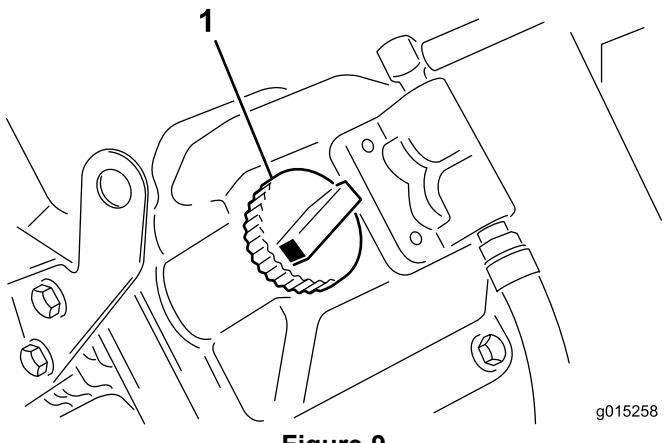

Figure 9
5. If the oil level is below the Full mark, remove the filler tube cap and add oil until the level reaches the Full mark on the dipstick (Figure 9). **Do not overfill.**